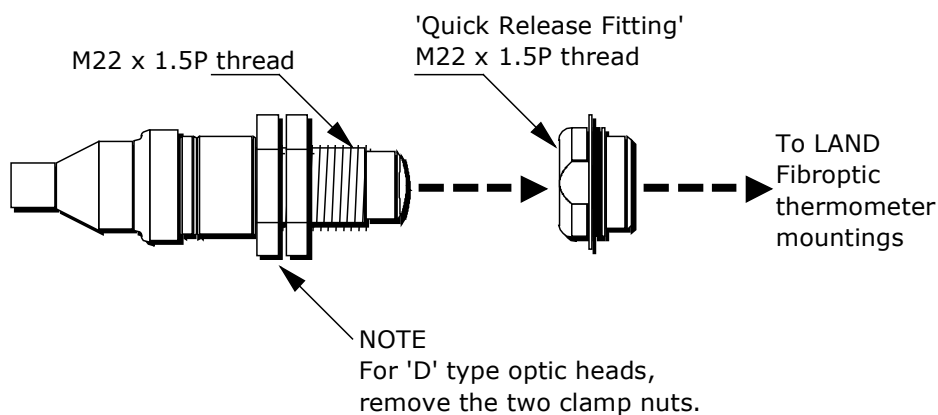

Fig. 3-3 Mounting the optic head into Land Fibroptic thermometer mountings
- 1) Refer to Fig. 3-3. Screw the two clamp nuts up as far as they will go on the thread on the optic head.